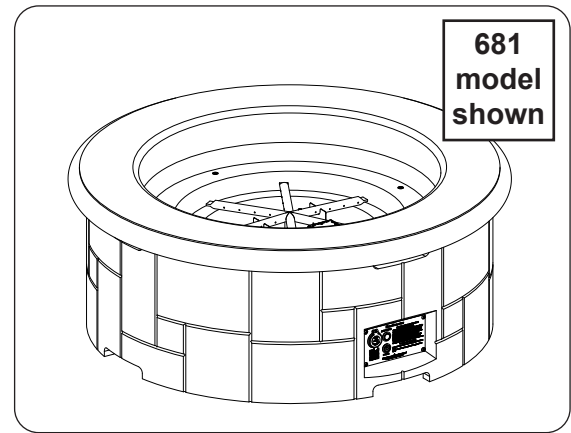

Fig. 29-1 Place unit
1. **CAREFULLY** place unit in an appropriate location (see Fig. 29-1, and refer back to the LOCATION section if needed).